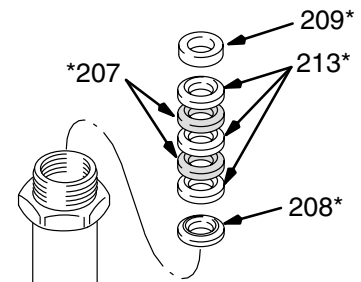

Fig. 28 02571
6. Place the male gland (208\*) in the cylinder. Alternately stack the polyethylene (213\*) and leather packings (207\*) (lips facing down). Then place the female gland (209\*) in the top of the cylinder. Seat the packings. See Fig. 28.